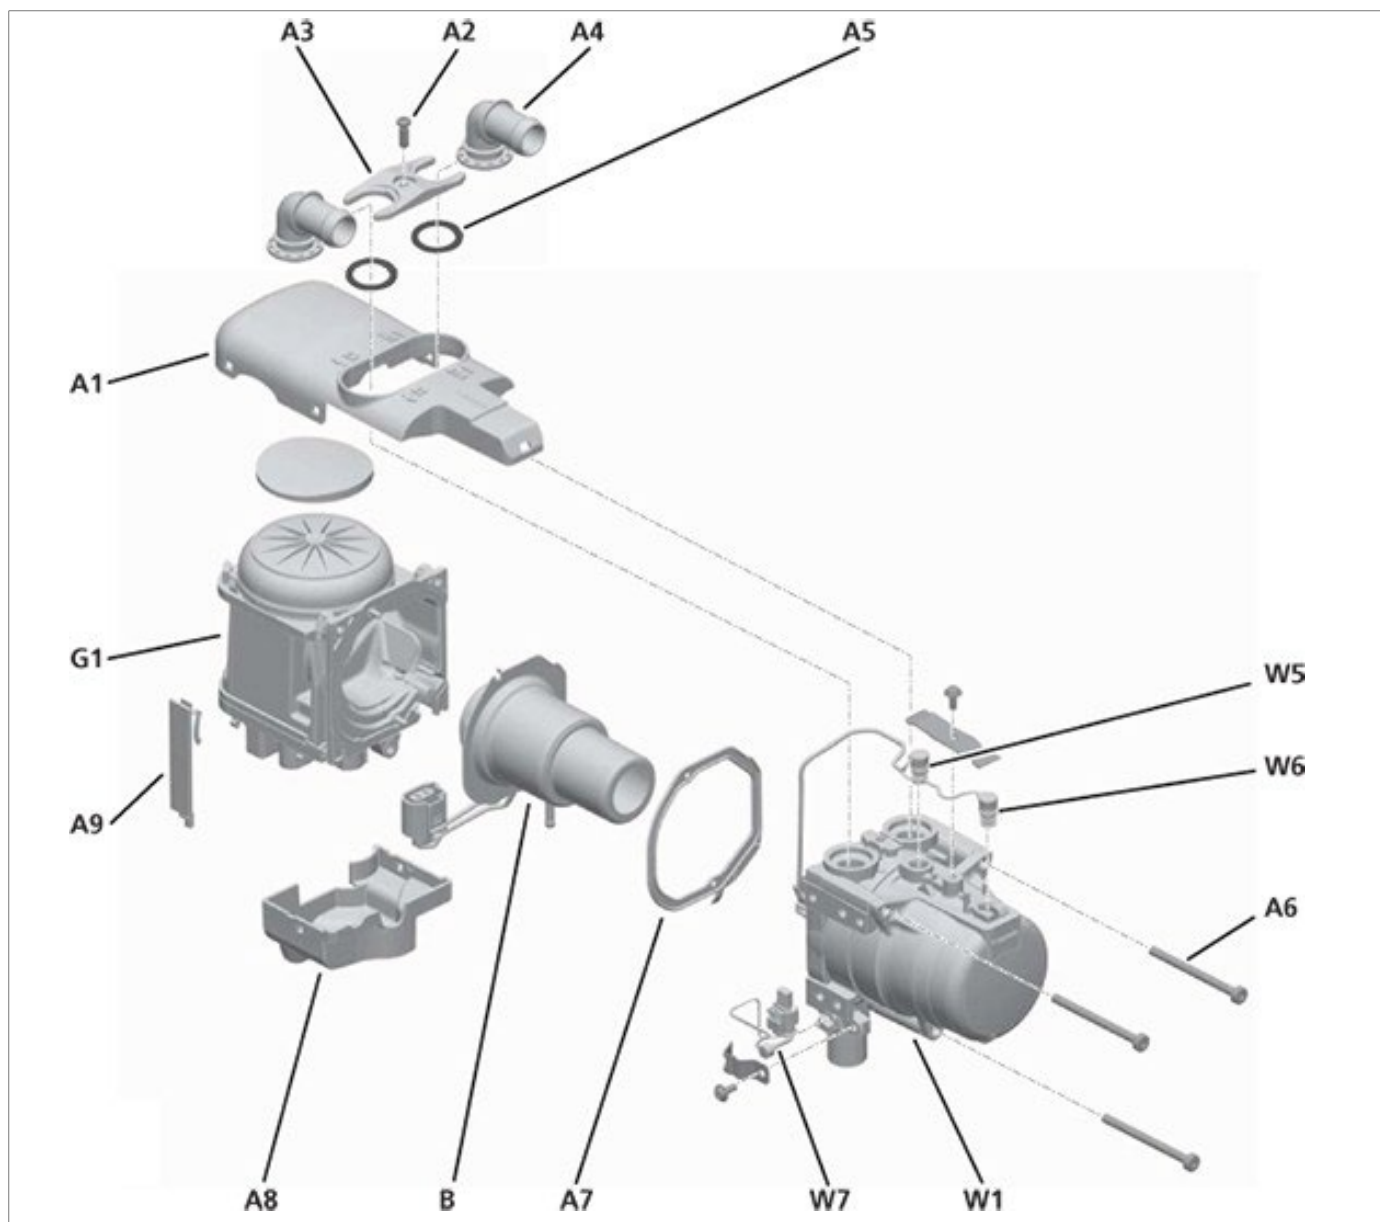

Fig. 901 Component description for Thermo Top Evo heater
1. Loosen screw (A2, Fig. 901) and remove water connection piece (A4) with retaining plate (A3) and O-rings (A5).
9. For information on removing the burner unit (B), see Section 9.2.1.